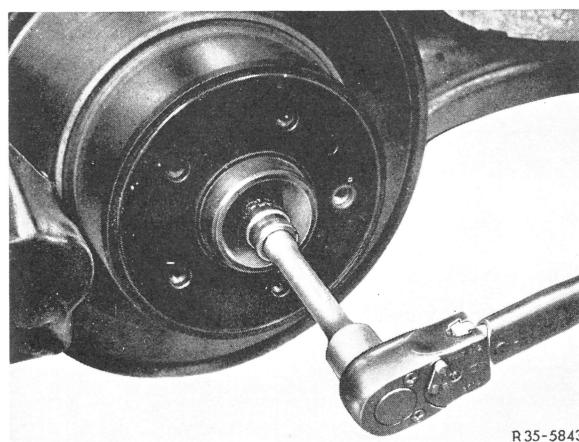

Fig. 2
- 3 Unscrew hex. bolt for attaching rear axle shaft to rear axle shaft flange on both sides (Fig. 2).
**20** Tighten hex. bolts to 95 Nm (9.5 kpm) (Fig. 2).